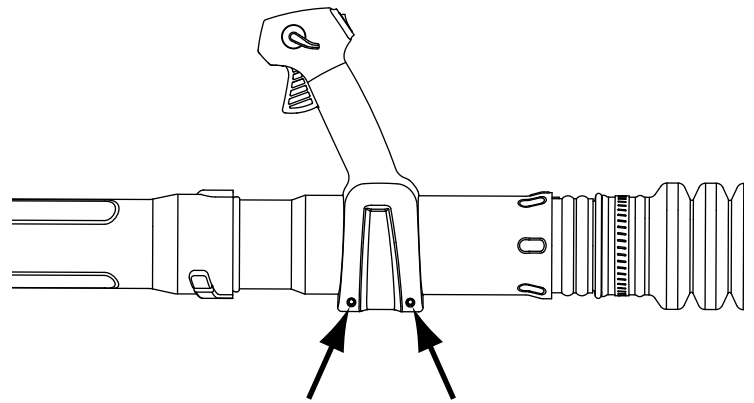

Fig. 8
2. Using a Torx® screwdriver, tighten the two screws at the bottom of the throttle grip (Fig. 8).